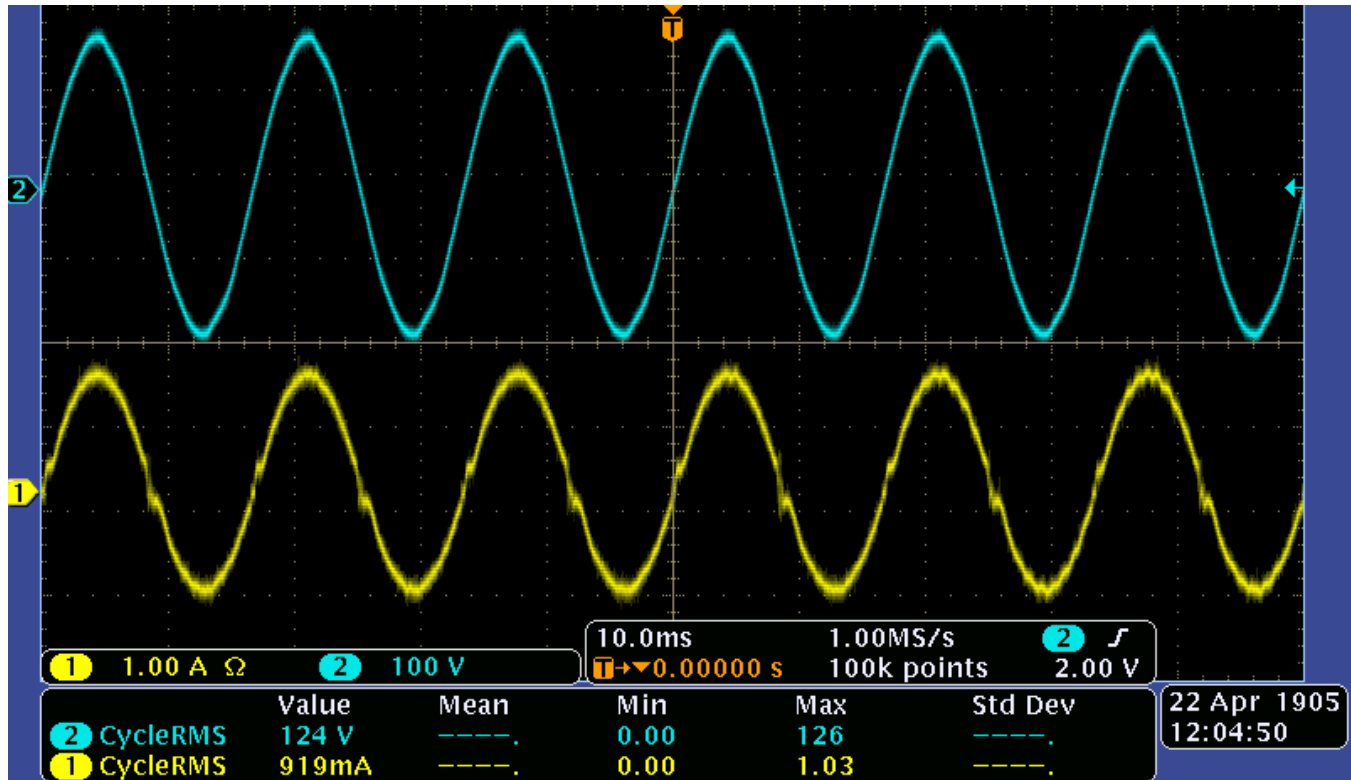

Figure 51. Build Level 3, Grid Connection Check Voltage and Current Waveform Scope Capture
8. Note that the current from the panel slowly increases to the MPP. If a PV panel emulator is used, different shading conditions can be tested and the transient behavior also evaluated. Note that the DC bus is regulated at around 275V. This is specified in the SolarMicroInv-Settings.h file, irrespective of the current command from the DC power supply. Figure 51 shows the waveform of grid voltage and inverter current fed into the grid when connected to a ~120 W MPP panel emulator.